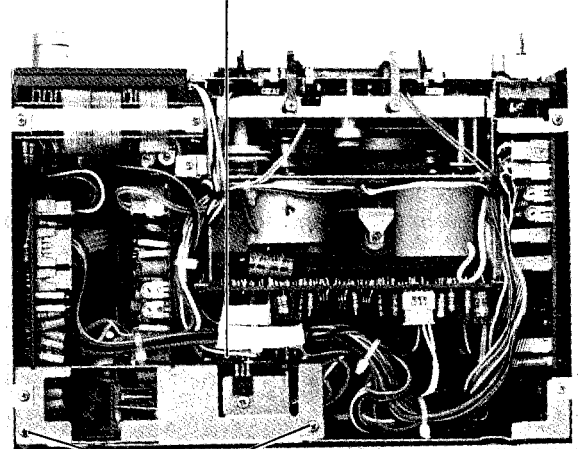

Figure 22.
2. Remove two screws (9) holding the mounting bracket for the power supply P.C. Board (1/2) and then lift up the P.C. Board upward as shown in Figure 22.